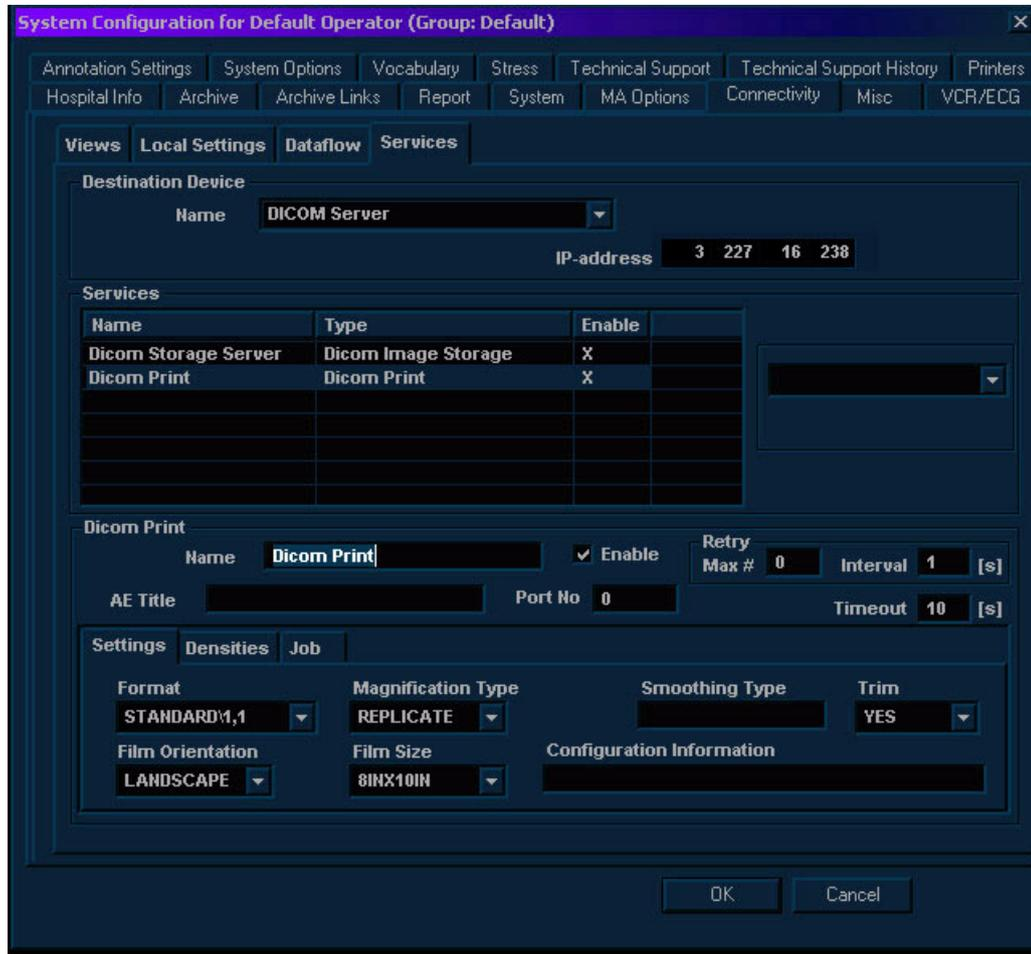

Figure 3-44 Connectivity Tab (Settings for DICOM Print Expanded)
- 11) Trackball to the **Dicom Print** line in the **Services** table. The **Services** tab is expanded, as shown in Figure 3-44 below.
- 12) Under *Settings*, select the required **Format**, **Film Orientation**, etc (see Figure 3-44, above).